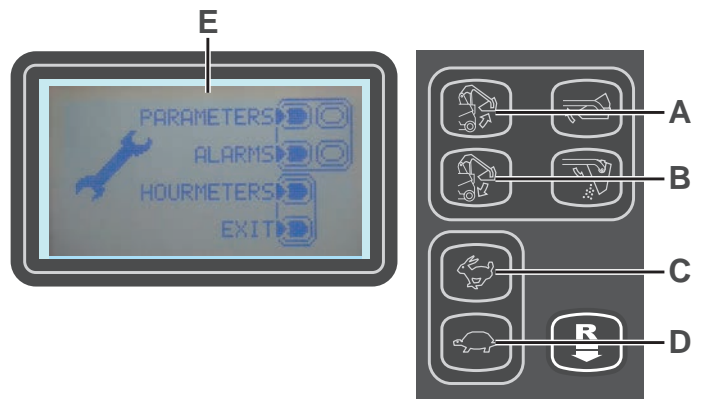

Figure 3
- (1) Daily or after using the machine.
- (2) Or before start-up.
- (3) Or more often in dusty areas
- (4) Or more frequently if the machine is used on slopes
- (5) Or every 6 months
- (6) And after the first 20 running-in hours.
- (7) Maintenance procedures to be performed by an authorized Honda/Yanmar dealer.
- (8) Change the hydraulic system oil after 500 hours or every year.
**Main screen (E, Fig. 3)**
1. Turn the ignition key (51) to the starting position "I" while holding down push-buttons (52) and (53) to access the main screen (E, Fig. 3).
2. Press push-button (A) to change the machine settings (see the Machine Settings Screen paragraph).
3. Press push-button (B) to check any alarms stored by the machine (see the Alarms Memory Screen paragraph).
4. Press push-button (C) to check the machine working hours (see the Hour Counter Screen paragraph).
5. Press push-button (D) to exit operator mode and return to operator mode.
To return to the main screen (E, Fig. 3), press pub-button (A) repeatedly.
To return to the main screen (E, Fig. 3), press pub-button (A).